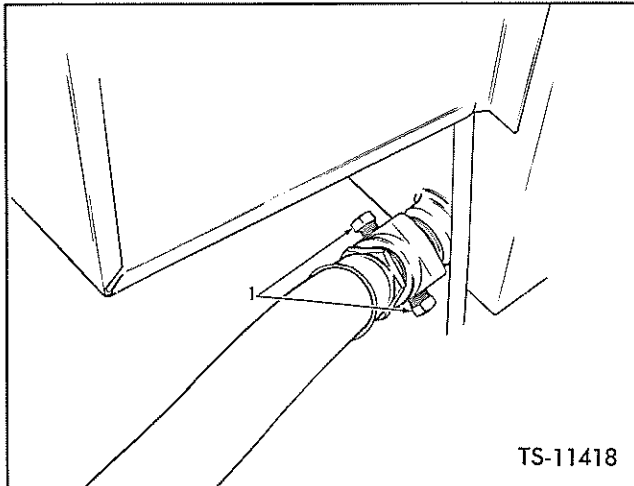

Fig. 23. Check Pressure — Oil Cooler IN
1. Install tachometer on engine. Install gauges at cooler IN and cooler OUT pressure ports shown as Item 1 in Figures 23 and 24.